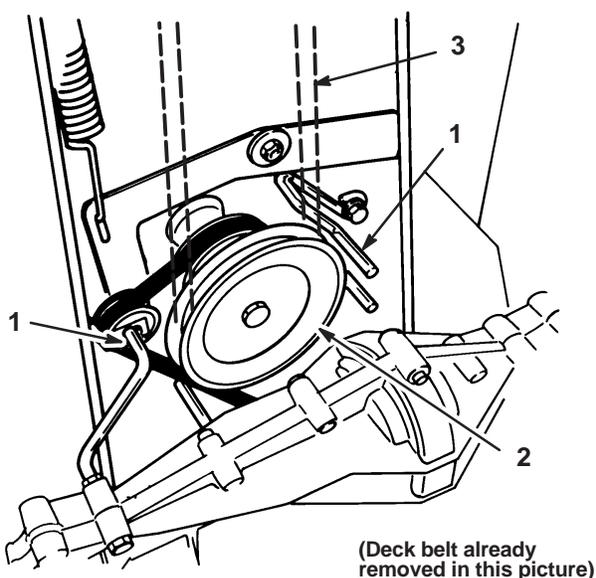

Figure 26
4. Loosen belt guides near engine pulley and rotate them out of the way. Remove deck belt from engine pulley (Fig. 26).
3. Loosen and remove (1) mounting screw securing each belt guide to cutting unit. Pivot belt guides away from spindle pulley and remove belt. Visually inspect belt for wear or damage (Fig. 26).
3. Remove deck belt from engine pulley (Fig. 26).